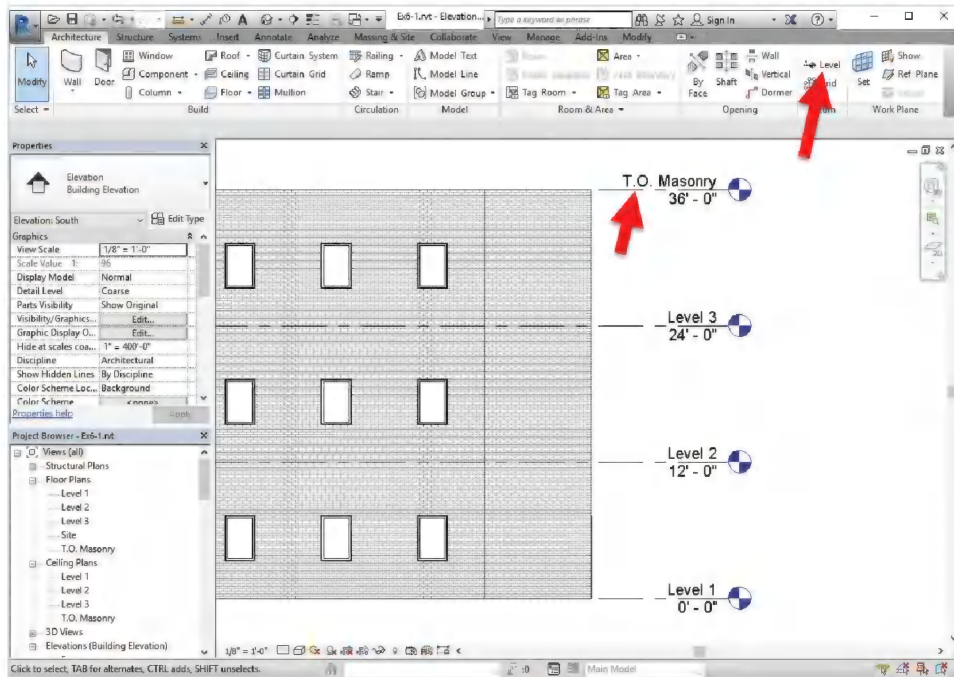

FIGURE 6-1.1 Renamed level datum
8. Change the label to **T.O. Masonry** (Figure 6-1.1).